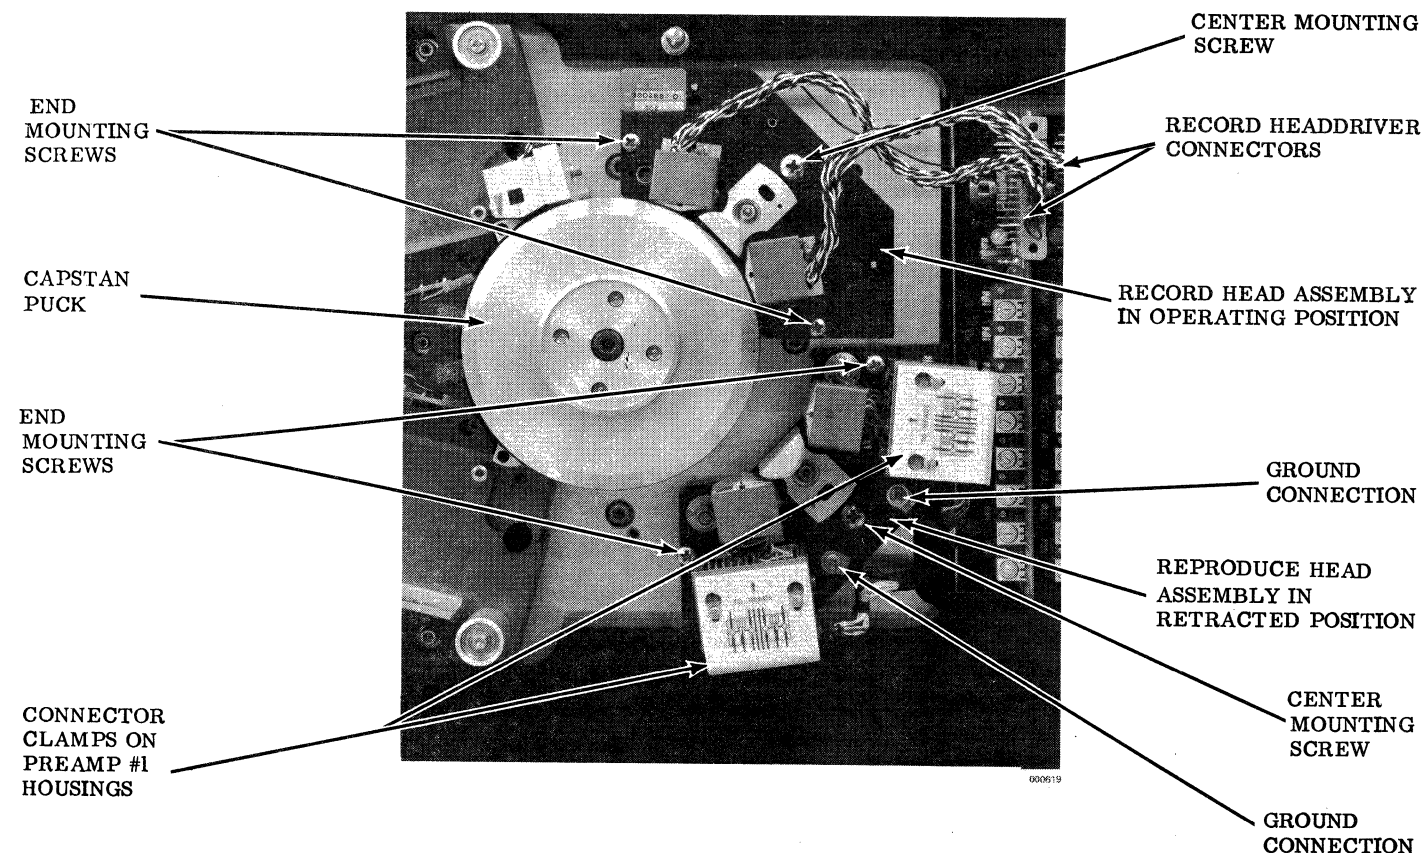

Figure 11-2. Typical FR-3010 Head Assemblies
Refer to Figure 11-2.
- Unscrew the two end mounting screws (Figure 11-2) of the head assembly. (They are captive in the assembly.)
Refer to Figures 11-2 and 11-3.
- d. Unscrew the two end mounting screws (Figure 11-2) of the head assembly. (They are captive in the assembly.)